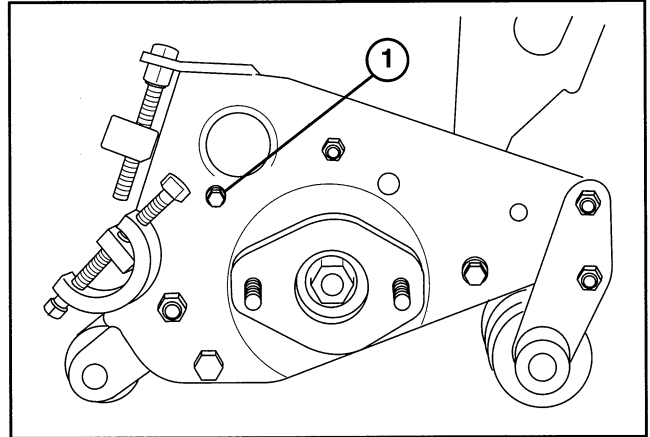

Figure 4
1. Loosen the locking bolt on the side of the cutting unit (Fig. 4).